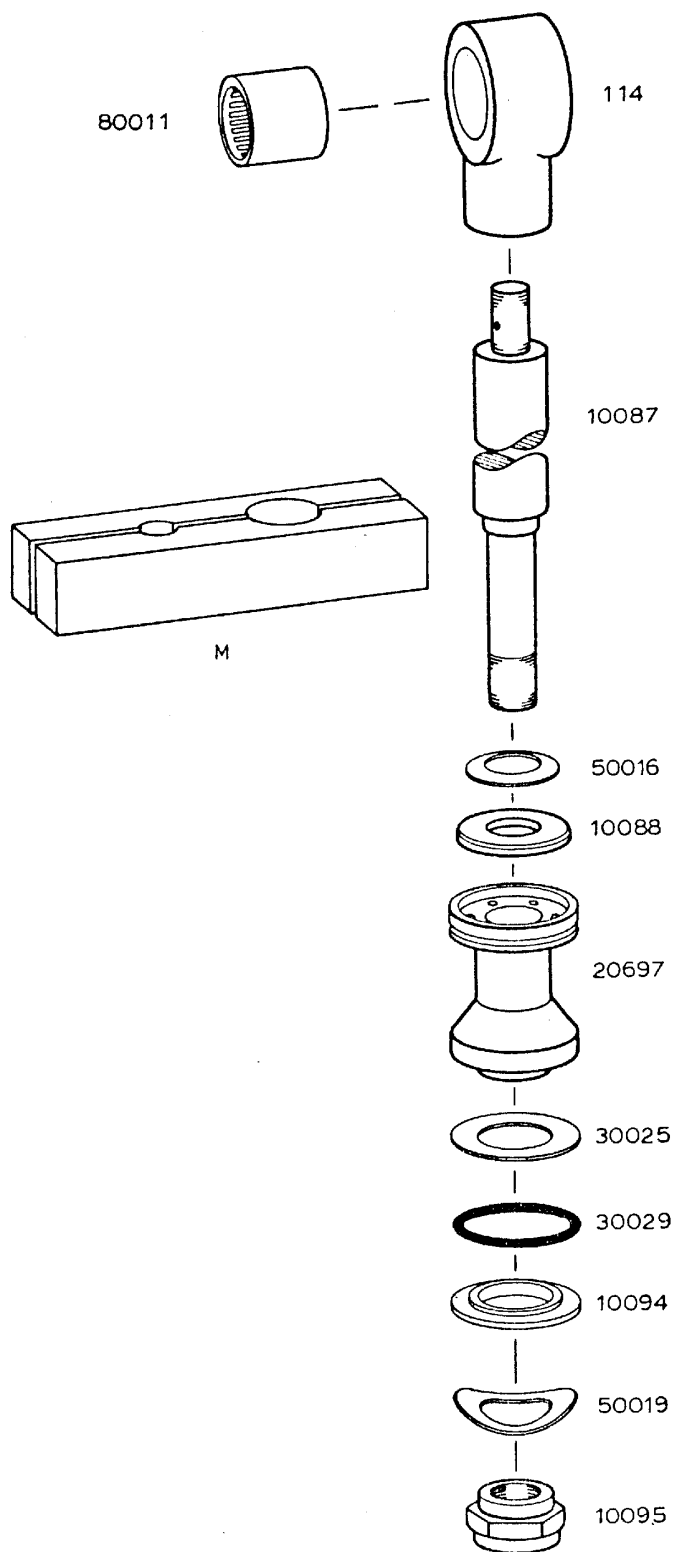

Figure 2
- c) BACK-UP RING 30025 and O-RING 30029 (see Fig. 2) require replacement. Damages on Back-Up Ring can be hardly located, because of small cracks. Check also O-Ring 30032; after longer use this O-Ring can be damaged.
(Figure 2)